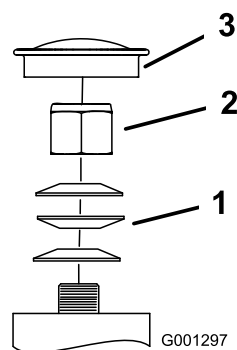

Figure 42
3. Remove the dust cap from caster and tighten lock nut (Figure 42).
4. Tighten the locknut until the spring washers are flat and then back off a 1/4 turn to properly set the pre-load on the bearings (Figure 42).
Important: Make sure spring washers are installed correctly as shown in Figure 42.
5. Install the dust cap (Figure 42).